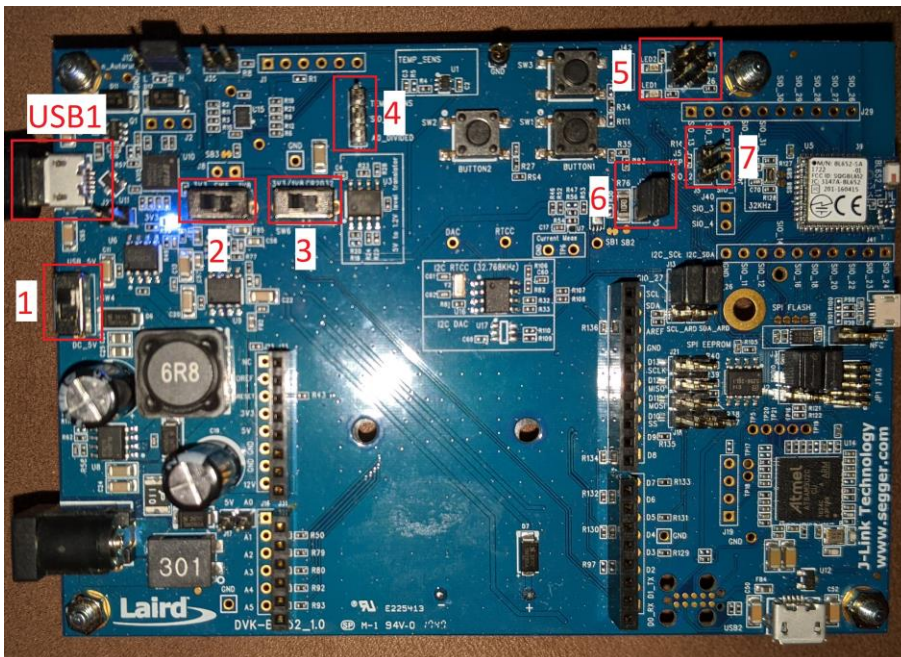

Figure 1: Switch and jumper positions for the BL652
1. Configure the BL65x development kit to the following settings (Figure 1):
5. To see the change in power when UART is closed compared to when it is open, remove the J7 jumper and attach a multimeter to enable current measurement. J7 is located at 4 on Figure 1. Ensure the CTS light is green while connected to the multimeter and check the connections if not.